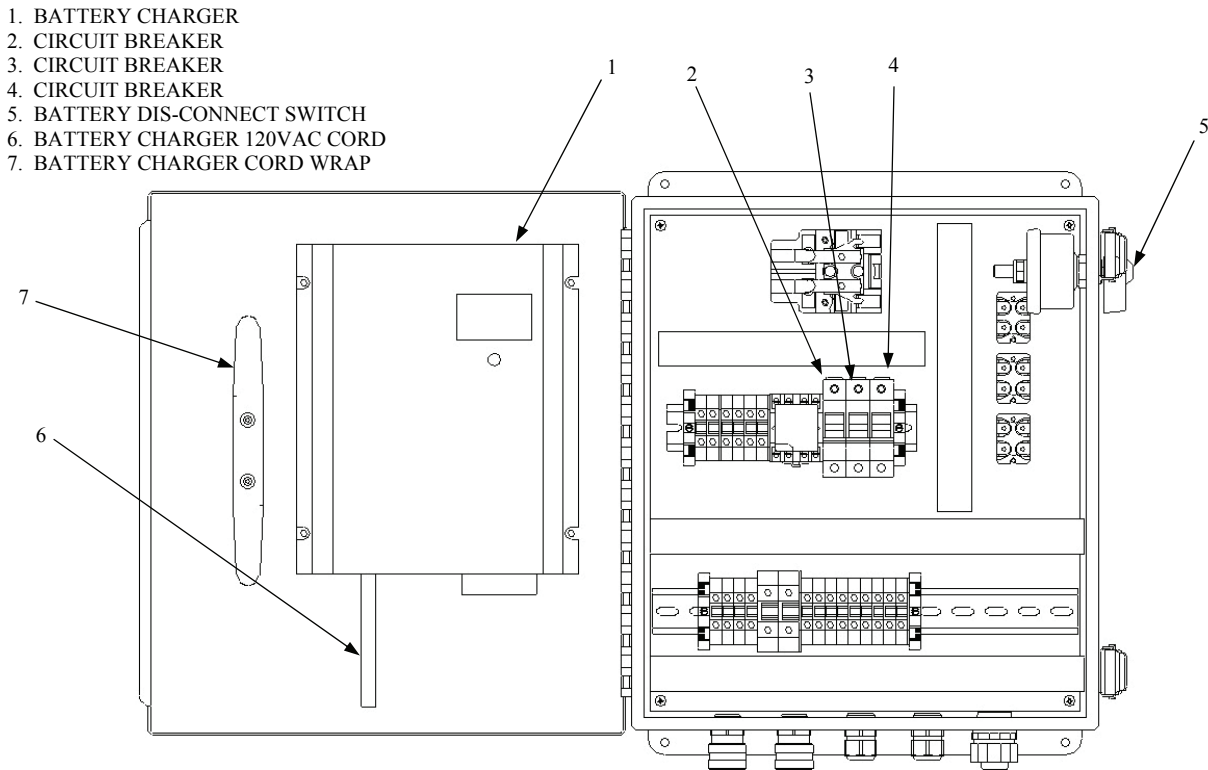

Figure 4-4. Main Electrical Panel
- b. Open the main electrical panel. See Figure 4-4.
- c. Located the 120-VAC cord. Figure 4-4, 6
- k. Stop the fuel pump by depressing the “PUMP OFF” button located on the operator console. See Figure 4-4, 4.